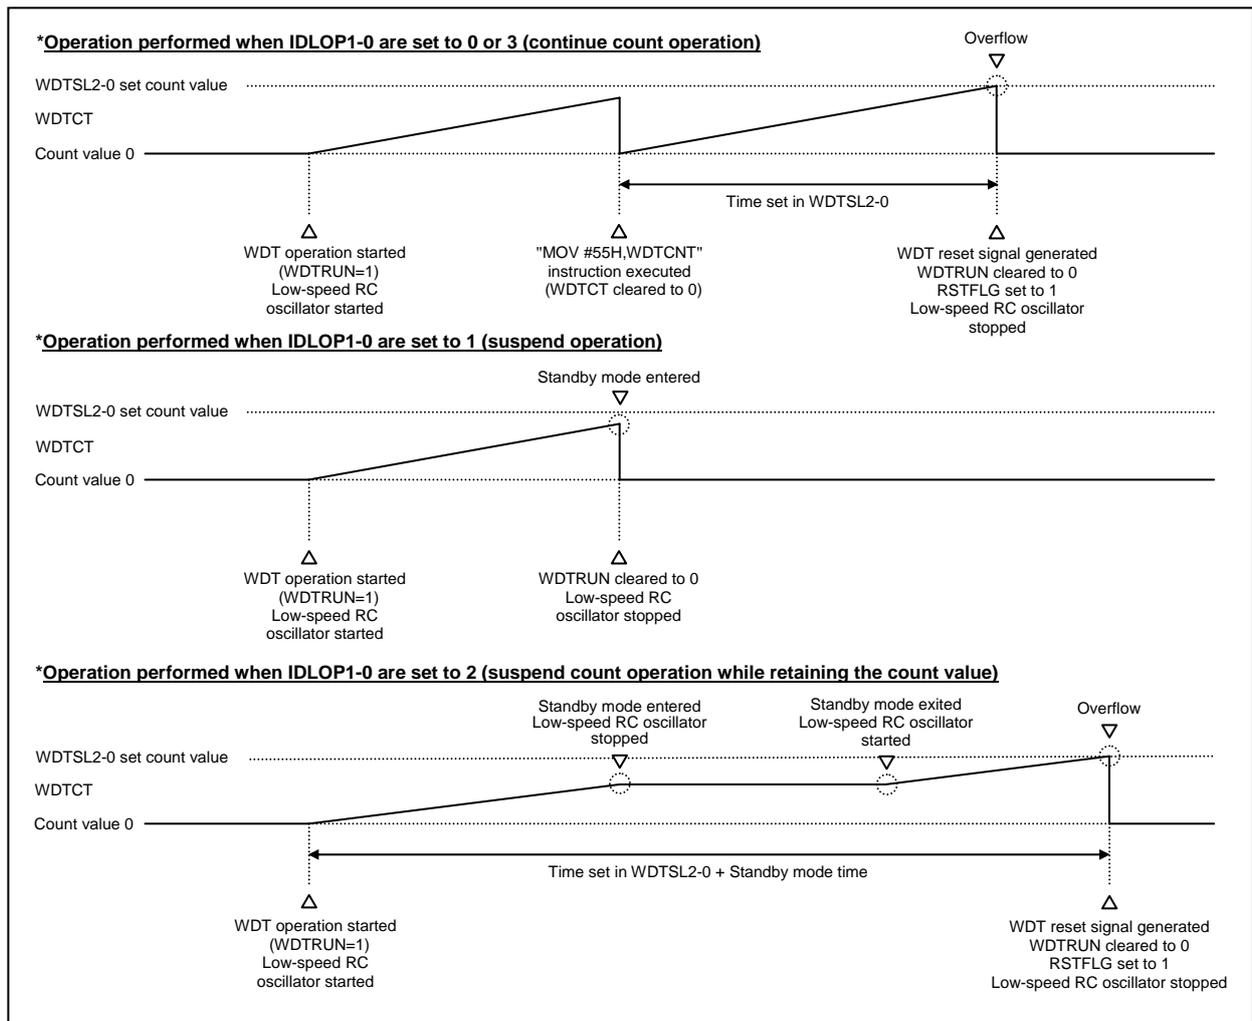

Figure 4.5.2 Sample Watchdog Timer Operation Waveforms
- * See Figure 4.5.2 for details on WDT operation.
* See Figure 4.5.2 for details of WDT operating modes.